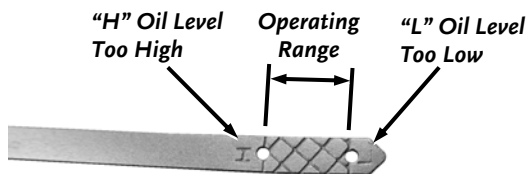

Figure 17
2. Remove the dipstick and check the oil level (**Figure 17**). If the oil level is below the "Add" mark on the dipstick, slowly pour oil into the oil fill tube until the oil level reaches the "Full" line on the dipstick. Do not overfill. (See your Engine users manual for detailed information on Oil type and quantity)